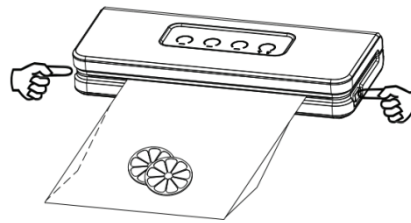

Figure 5
8. After completing the process of Vacuum Seal, press both of the Lid Release Buttons to open then upper lid and take out the sealed bag (as shown in Figure 5).